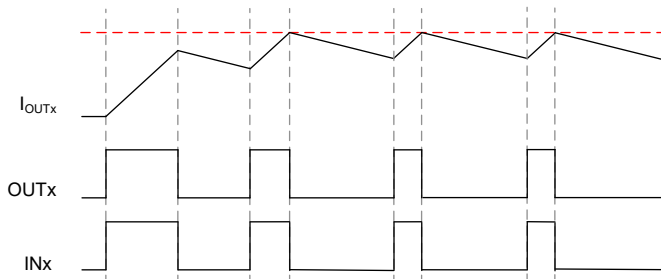
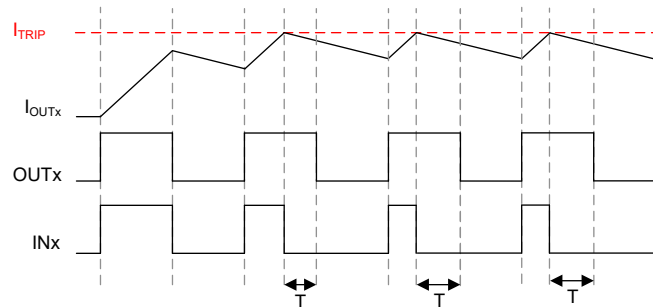

Figure 7-5. Inductive Load Connected to ground, Cycle-by-cycle control
Figure 7-6. Inductive Load Connected to ground, Cycle-by-cycle control
- Loads can also be controlled using the cycle-by-cycle method. When $INx = 1$, the current through the load builds up; and when $INx = 0$, the current through the load decays. By properly choosing the duty cycle of the INx pulse, current can be regulated to a target value. Various such scenarios are shown in Figure 7-5 and Figure 7-6.